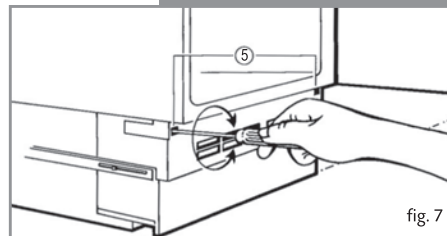

fig. 7
- Attach the appliance plinth at screws (5), turning screws clockwise until considerable resistance is felt (figure 7).
8. Remove the two screws, which attach the upper hinge to the body and the two screws holding the lower hinge to the appliance body (Fig. 7).